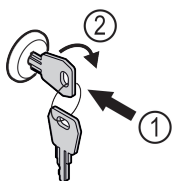

Fig. 174 Example illustration
- Insert key Fig. 174 (1).
- Turn key clockwise by 90° Fig. 174 (2).